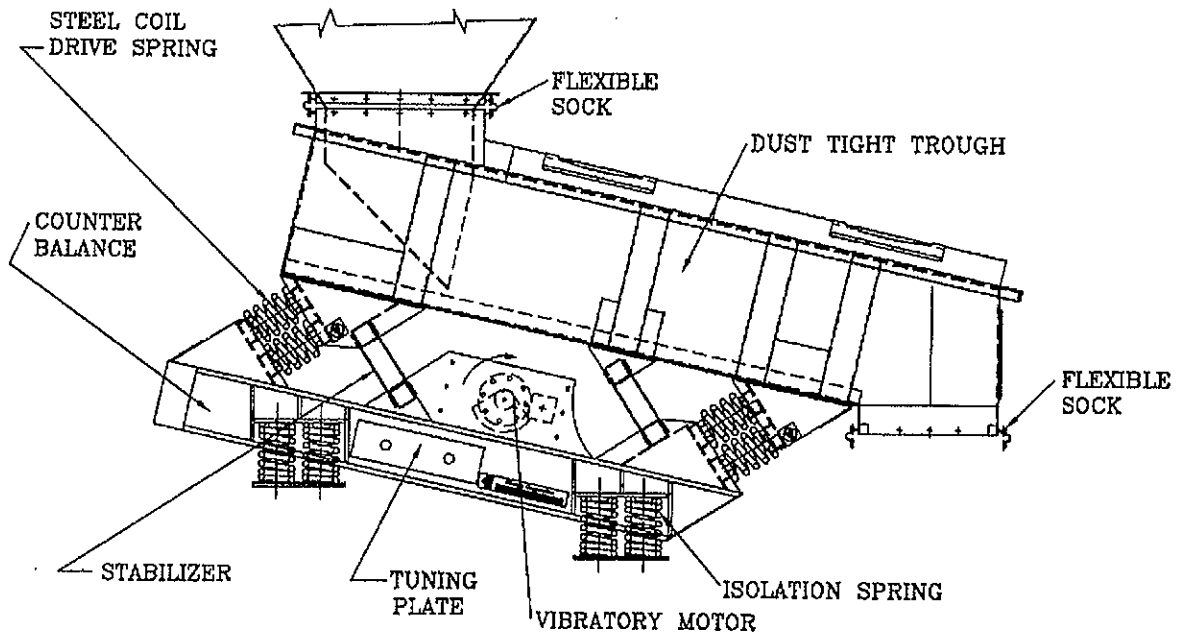

Fig. 32: A Feeder with an integral "dust-tight" trough
7. For ecological reasons, and when the fed material is "dusty" or otherwise in need to be contained, a "dust-tight" feeding trough is recommended. Appropriate flexible connections will be used at both the inlet(s) and outlet(s). (See Figure 32.)